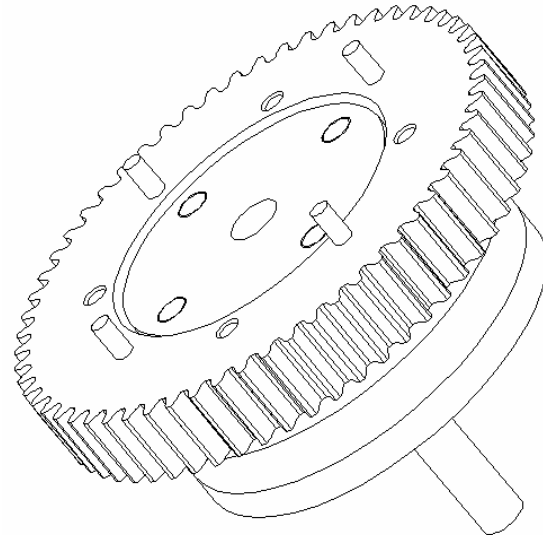

Figure 7b
14. Place outer ring gear on top of assembly with rimmed holes aligning with shafts as shown in figure 7b.